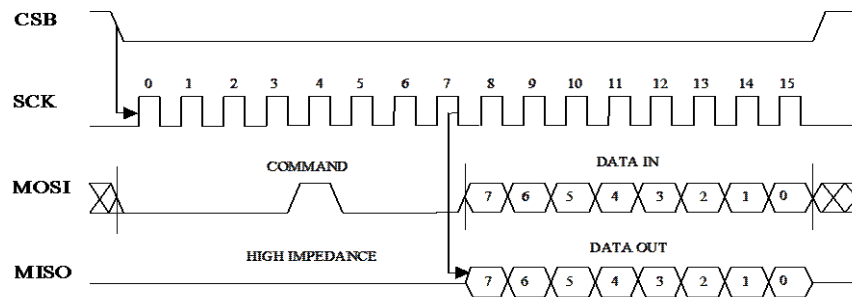

Figure 10. Command and 8 bit temperature data transmission over the SPI
**Read temperature data register (RWTR)** reads the temperature data register during normal operation without effecting the operation. Temperature data register is updated every 150  $\mu\text{s}$ . The load operation is disabled whenever the CSB signal is low, hence CSB must stay high at least 150  $\mu\text{s}$  prior to the RWTR command in order to guarantee correct data. The data transfer is presented in figure 10 below. The data is transferred MSB first. In normal operation, it does not matter what data is written into temperature data register during the RWTR command and hence writing all zeros is recommended.